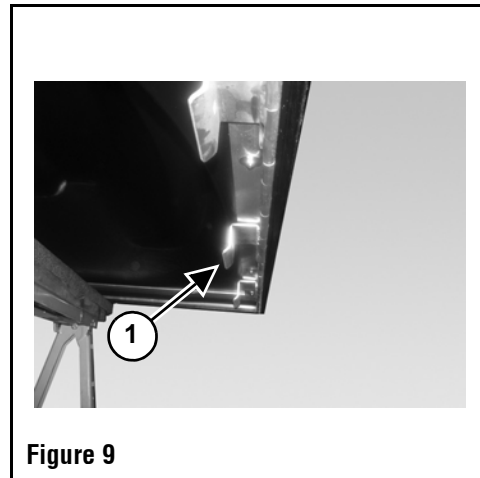

Figure 9
3. Rotate the hinge (Item 1) in the closed position. (**Figure 9**)